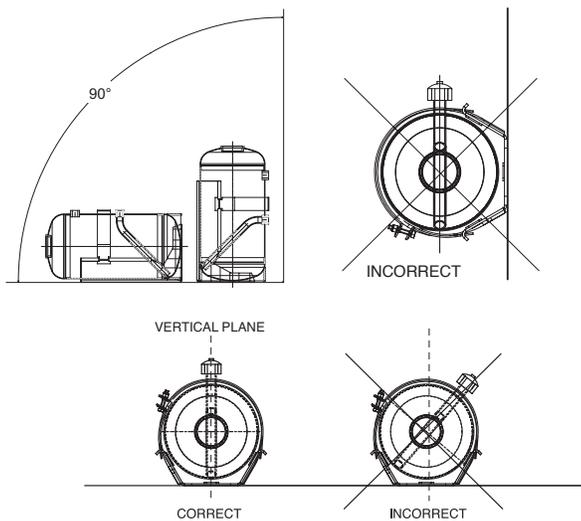

FIGURE 5-2
- 1. Position LVS-3 or LVS-5 tank on a rigid area capable of supporting weight of the full tank assembly, making sure there is no interference with any vehicle components, access panels, or doors. The tank can be mounted in either a vertical or horizontal position or at any position between 0° and 90°. When mounted in horizontal position, tank outlet must point in the up position, parallel to the vertical plane. If tank is installed at an angle between 0° and 90°, make certain tank outlet is opposite lowest corner of the tank. See Figure 5-2.
- **Note:** When mounting LVS-3, LVS-5 or LVS-10 tank in a horizontal position, bracket back plate must be secured to a horizontal surface, such as a deck. When tank is in a horizontal position, bracket cannot be mounted to a vertical surface, such as a wall. See Figure 5-2.